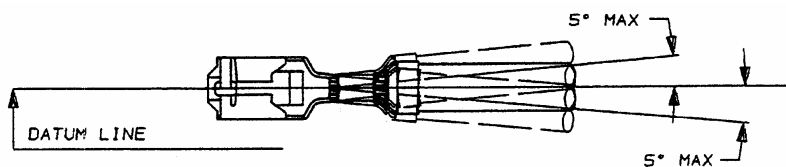

Fig. 3
- (2) The side to side bending of the contact, after crimping, shall not exceed the limits specified on Fig. 3.